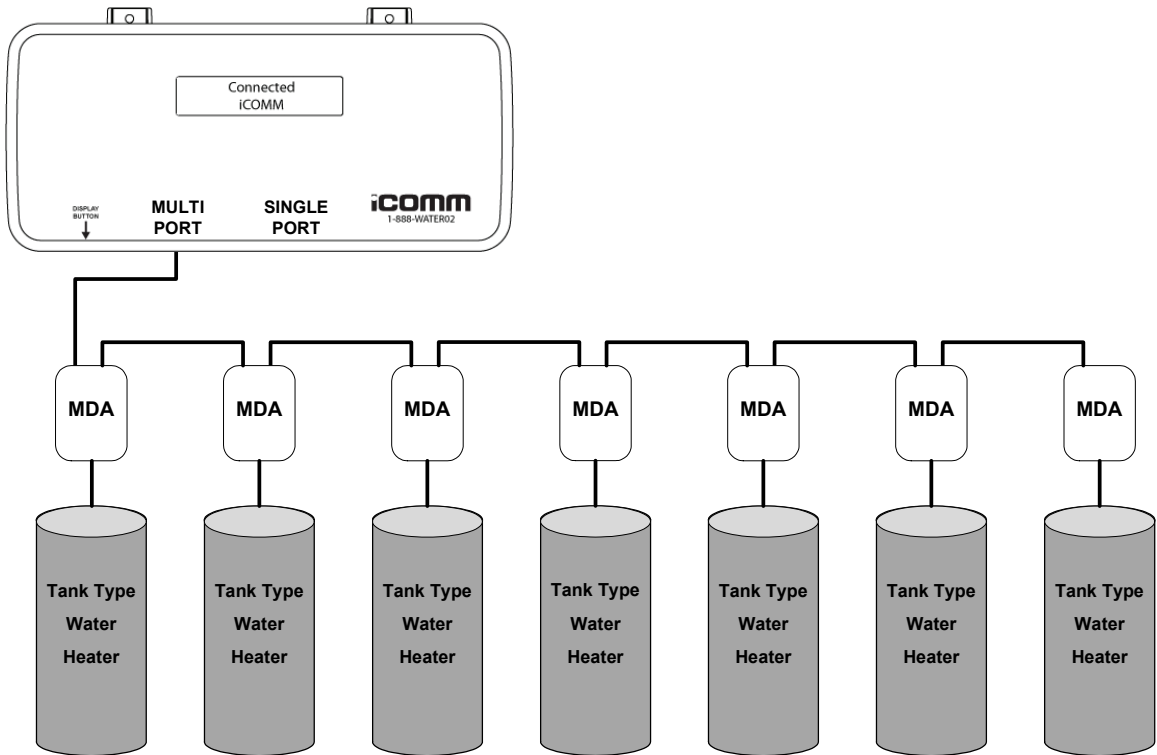

Figure 15
Multiple Appliance Networks are formed by connecting network cables between multiple tank type water heaters (or a combination of tank type water heaters and boilers) and the iCOMM™ system's CM (communication module) in a "daisy chain" configuration - see Figure 15 on page 20 and Figure 16 on page 23.
- 1 If more than one water heating appliance will be connected to the network and any time there is a boiler connected to the network the “MULTI PORT” socket on the CM (communication module) must be used to connect the first appliance. See Figure 11 and Figure 15 on page 20 and Figure 16 on page 23.
- 5 Multiple Appliance Networks can have a maximum of 7 tank type water heaters connected to a single CM - see Figure 15 on page 20. If more than 7 tank type water heaters are present additional CMs must be installed.
- 7 Connect the network cable from the CM's MULTI PORT to the first water heater on the network. Plug this cable into an open socket on the first water heater's MDA - see Figure 15 on page 20.
- 8 Connect network cables between the open sockets at each water heater's MDA to complete the network - see Figure 15 on page 20.
- 6 Ensure there are not more than 7 tank type water heaters (maximum allowed) or a combination of 10 total appliances (IE: 7 tank type water heaters and 3 boilers) on a Multiple Appliance Network (see Figure 15 on page 20 and Figure 16 on page 23).